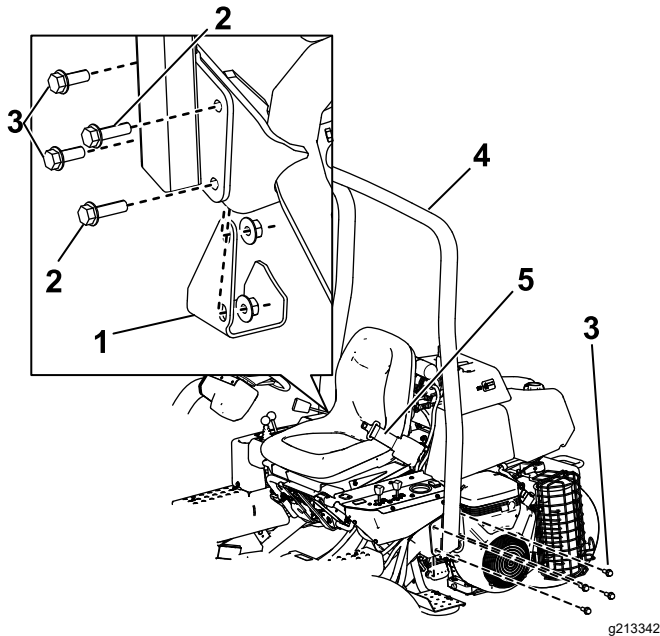

Figure 4
2. Lower the roll bar (Figure 4) onto the mounting brackets, aligning the mounting holes.
3. Secure the left side of the roll bar to the mounting bracket with 4 bolts (1/2 x 1-1/2 inches) and locknuts (Figure 4).
5. Secure the right side of the roll bar and the previously removed jack pad to the mounting bracket with 2 bolts (1/2 x 1-1/2 inches), 2 bolts (1/2 x 1-3/4 inches), and locknuts as illustrated in Figure 4.